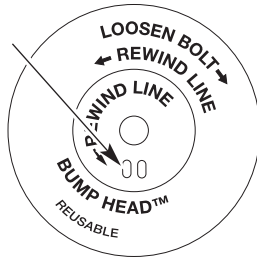

Fig. 34
**NOTE:** SplitLine™ can only be used with the inner reel with the slotted holes. Single line can be used on either type of inner reel. Use Figure 34 to identify the inner reel you have.